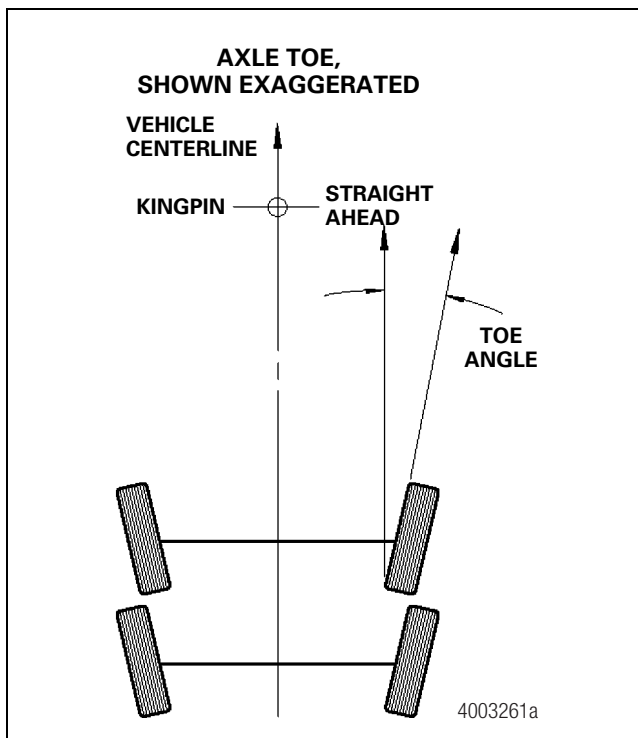

Figure 8.17
- Axle toe is defined as the inward and outward angle of the tires with respect to horizontal. With toe-in, the front of the tires are closer together than the rear. Toe-out is the opposite. Figure 8.17.